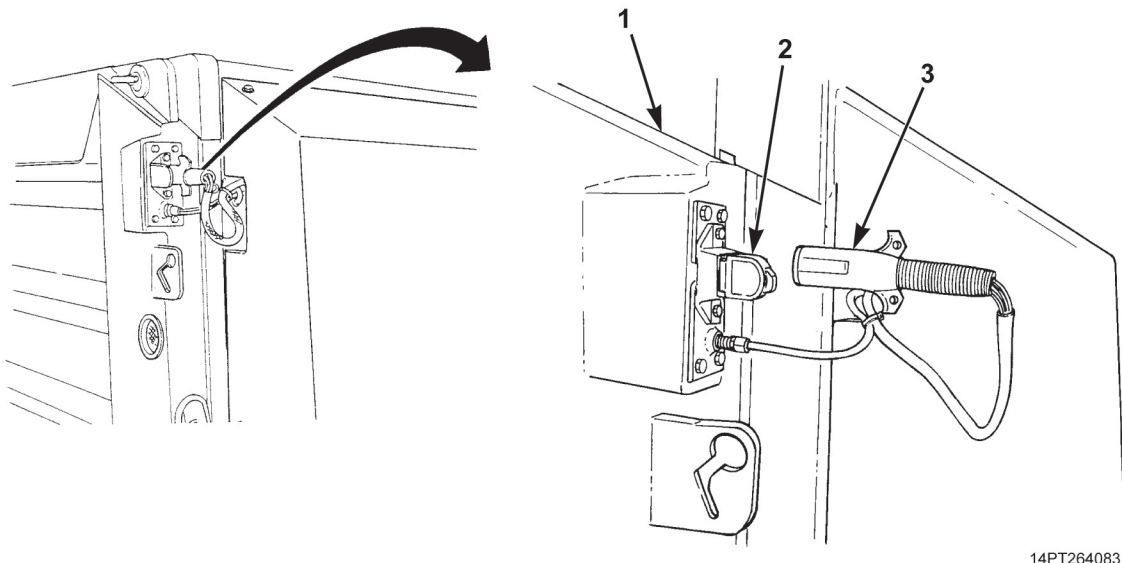

Figure 1. Wiring Harness Removal.
1. Disconnect wiring harness connector (Figure 1, Item 3) from truck-to-MCS tailgate wiring harness receptacle (Figure 1, Item 2) at driver's side dump body pillar (Figure 1, Item 1).